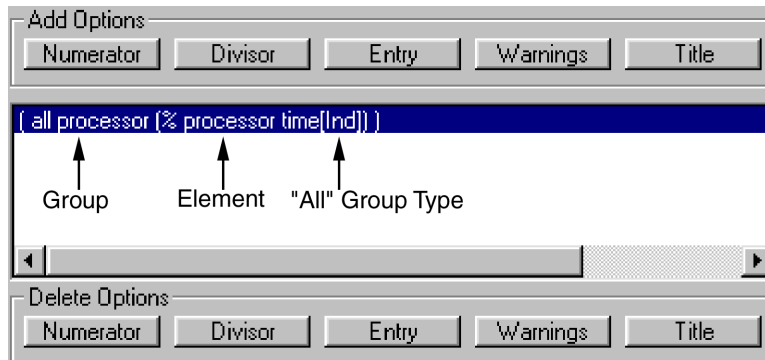

Figure 5.8 Computation window in the Data tab
- 5 Click the **Data** tab (see Figure 5.8).